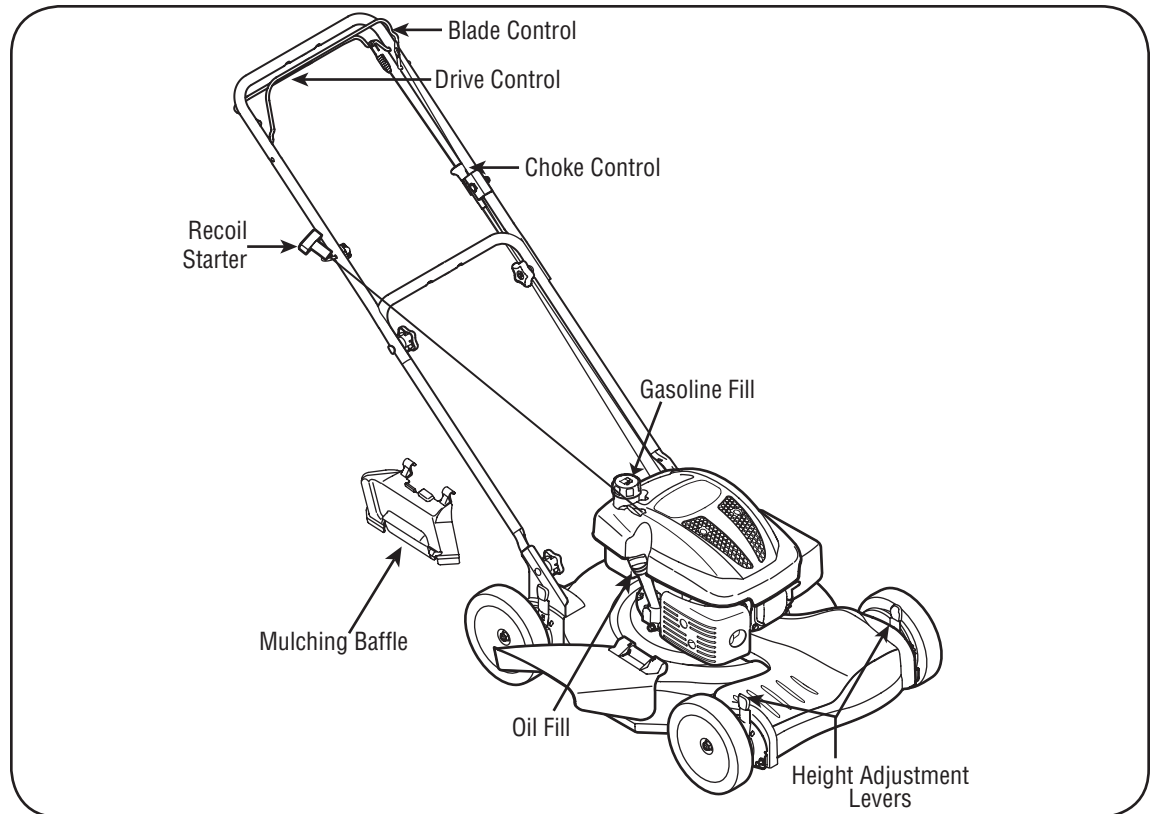

Figure 4-1
The drive control is located on the underside of the upper handle and is used to engage the drive. Squeeze it against the upper handle to engage the drive; release it to slow down or stop mower from propelling. See Figure 4-1.
1. Add oil provided before starting unit for the first time out of the box. Follow engine operation section for this. See Figure 4-1 above for location of the oil fill.
2. Service the engine with gasoline as instructed in the engine operation section. See Figure 4-1 above for location of gas fill.